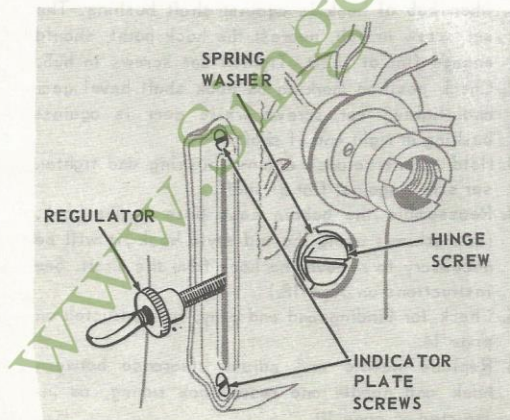

Fig. 42. Removing Feed Regulator
2. Remove stitch indicator plate screws, Fig. 42, regulator hinge screw and spring washer.